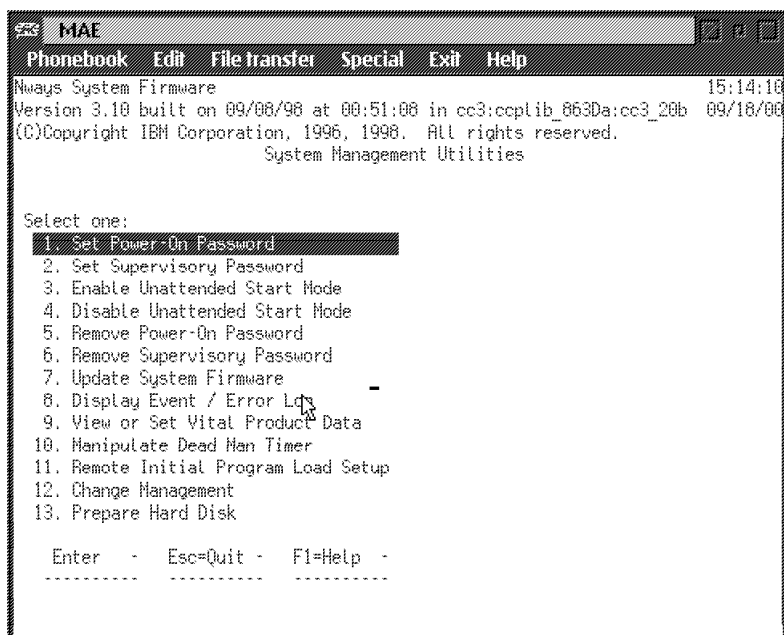

Figure 5-6. Utilities Selection Panel
- 2 A menu listing the available utilities is displayed (Figure 5-6).